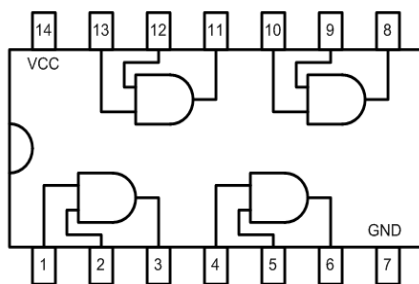

Figure 2.1 - 7408 AND logic gate IC
1. Figure 2.1 shows the internal diagram of 7408 AND gate taken from datasheet.